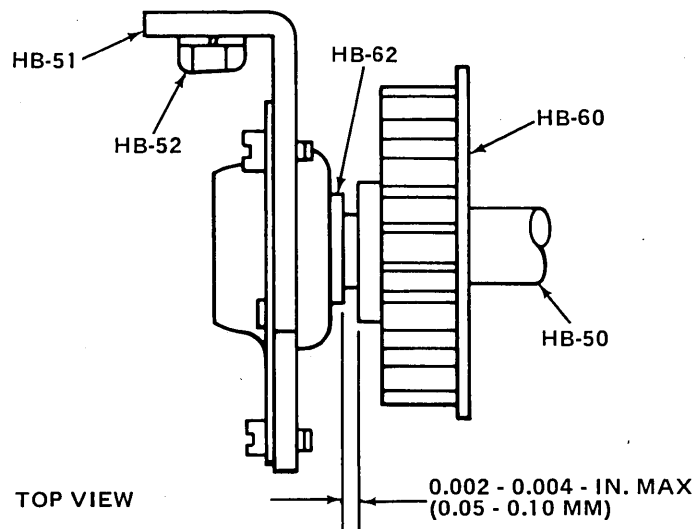

Figure 5-5. BUSHING END-PLAY ADJUSTMENT FOR PRELOAD CLUTCH SHAFT (HB-50)
G. Bushing End-Play Adjustment (Pre-Load Clutch) (Refer Fig. 5-5)